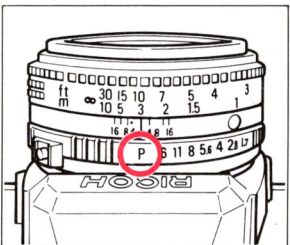

Fig. 41
3. Set the F-Stop Ring to "P". (Fig. 41)